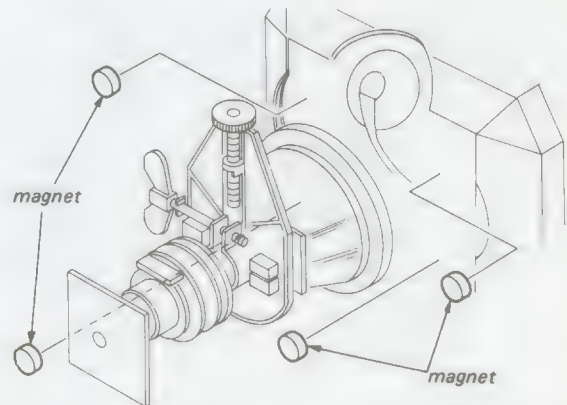

Fig. 5-4.
1. Apply the magnet around the deflection yoke where the color nonuniformity exists from the funnel side as shown in Fig. 5-4.